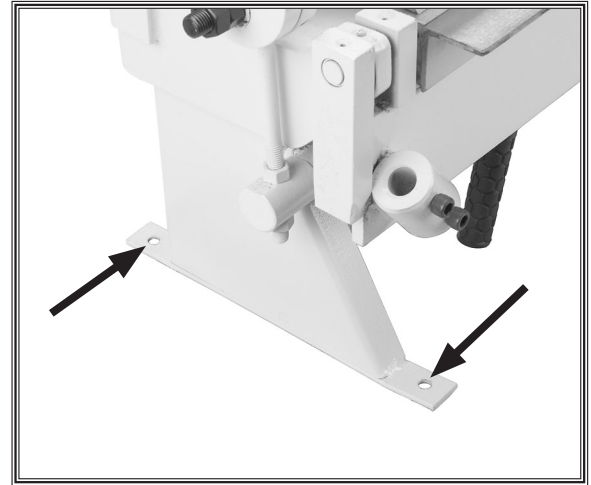

Figure 6. Mounting holes.
2. Use the holes in the base as a guide for drilling and attaching the pan and box brake to the workbench (see Figure 6).